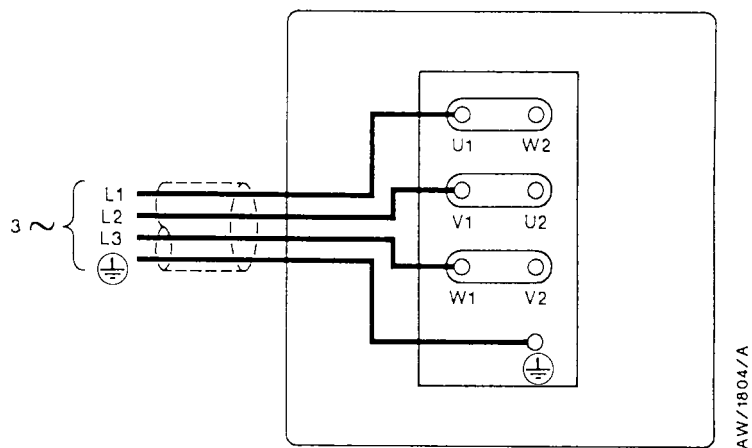

Figure 8 - Electrical supply connection, three-phase motors: 200-220 V 50 Hz and 200-230 V 60 Hz
We recommend that you connect the electrical supply to the motor through a starter or circuit breaker which has thermal over-current protection which can be adjusted to suit the full load current ratings shown in Table 4. The fuse ratings in Table 4 are provided for guidance only. The supplier of your thermal overcurrent protection device may specify different values to ensure correct operation of the fuse and the overcurrent protection device. Ensure that the fuse you use is suitable for the starting currents given in Table 4. Refer to Figure 8 or 9 as appropriate for the correct electrical supply connection diagram for your motor.
3. Refer to the electrical supply connection diagram for your pump, (Figure 8 or 9). Make sure that the metal links are connected as shown; if they are not, move the links to the positions shown.
4. Pass the electrical supply cable through the cable-gland and connect to the appropriate terminals, as shown in Figures 8 and 9.
- Remove the terminal-box cover and swap wires L1 and L3: see Figures 8 and 9.